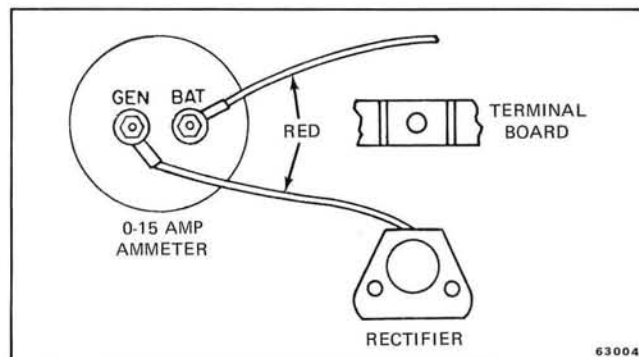

Figure 7-14A. Alternator Output Check
- a. Remove terminal board screw connecting rectifier and motor cable red leads. See Figure 7-14A & 7-21.